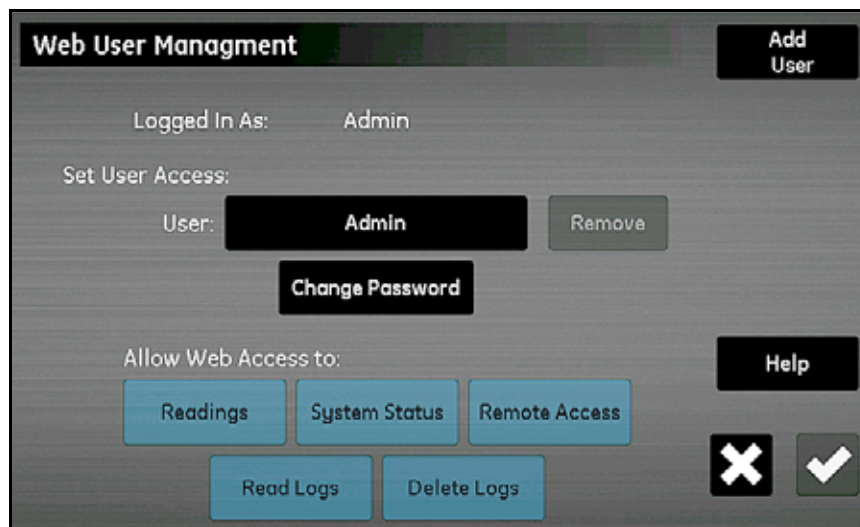

Figure 63: Web User Management Screen
Enter your password and tap the Log In button. On a successful login, the *Web User Management* screen shown in *Figure 63* below is opened.
The Operator password should be changed at the earliest opportunity. The steps for changing the Operator password are the same as for changing the Admin password (see previous section). Select the Operator account from the *Web User Management* screen (see *Figure 63 on page 72*), then enter and confirm the new password.
4. Tap the Log In button to open the *Remote User Management* screen (see *Figure 63 on page 72*).